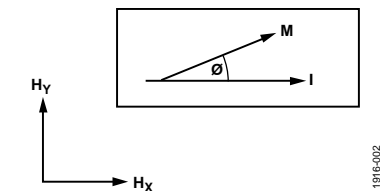

Figure 2. Anisotropic Magneto-resistive Example
An example of the AMR effect is shown in Figure 2. A current (I), flowing through a conductor, is subject to an external magnetic field (Hy). The resistance of the conductor changes as a function of the angle (θ) between the magnetization vector (M) and the current flow vector (I). The magnetization vector is the net sum of the internal magnetic field (Hx) and the applied external magnetic field (Hy).